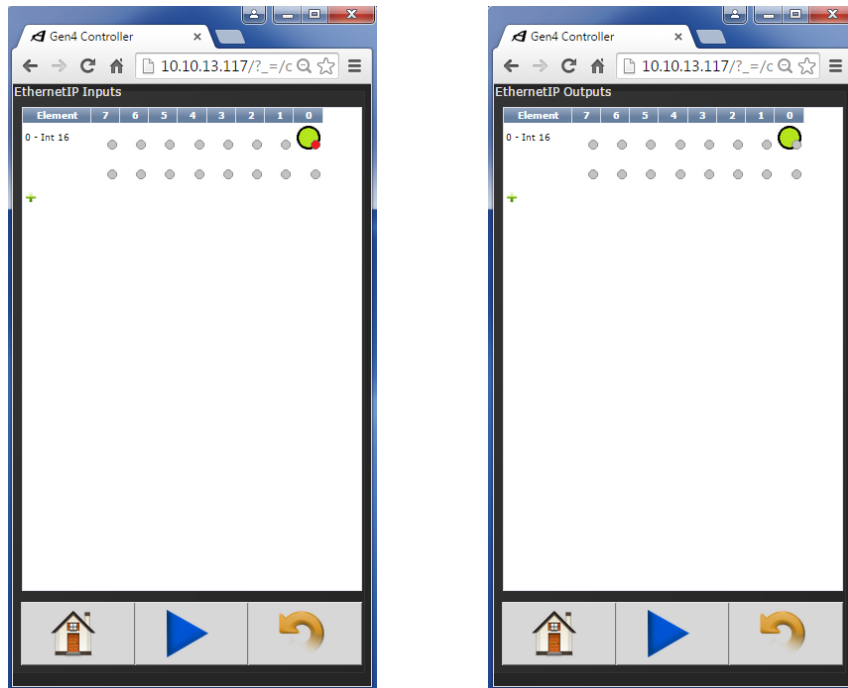

Figure 2 Controller EtherNet IP Settings
Return to the 'Controller' menu and select 'I/O' to bring up the Inputs and Outputs of various modes of communication. Since we are using EtherNet IP, we will need to create input and output variables since no defaults exist. To create a variable, click the 'plus' symbol on the left of the screen. Select which bit/bits you would like to enable and click the green check mark. For simplicity, choose only one bit with element type 'Int16' for the input (stop bit) and output (OK). These steps are shown in Figure 2. Be sure that the controller is configured as shown.